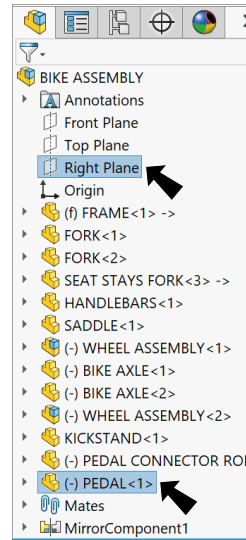

Fig. 22
Step 1. **Ctrl click Right Plane** and **Petal** in the Feature Manager to select, **Fig. 22**.